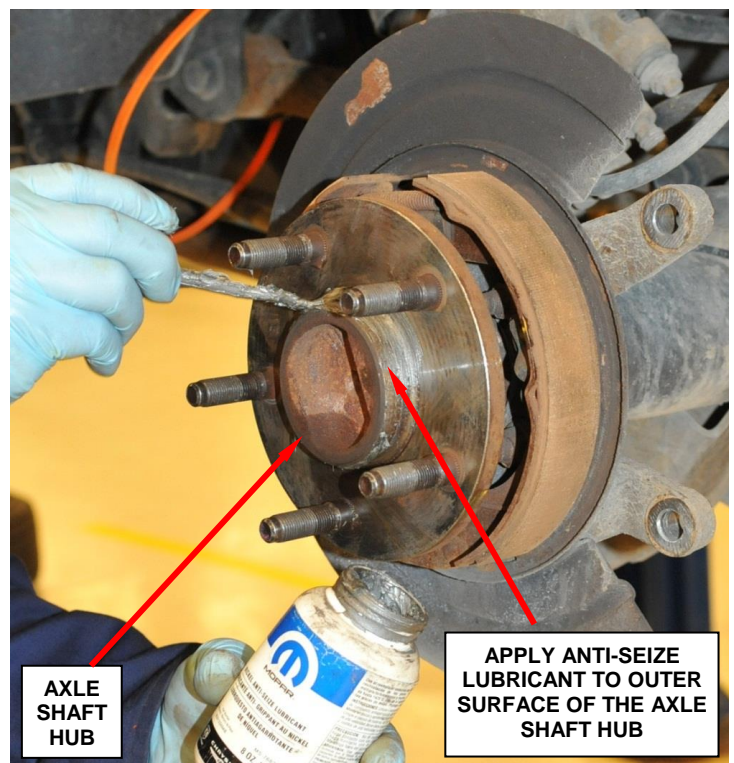

Figure 47 – Apply Anti-Seize Lubricant to Axle Shaft Hub
55. Apply a light coat of Mopar Nickel Anti-Seize Lubricant to both axle shaft hubs (Figure 47).